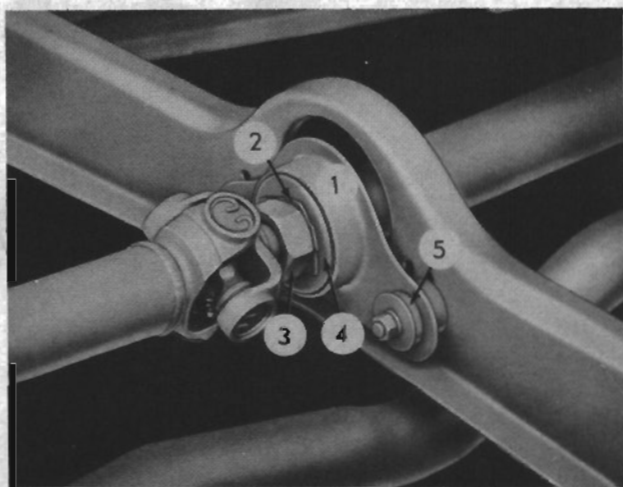

FIG. 2
To remove the rear propeller shaft, first straighten the ear of the lock plate (2, Fig. 2), loosen the grease washer nut (3), and unscrew it from the shaft. Then mark the universal joint flange and rear axle companion flange so that at installation the original position and balance will be maintained. Remove the U bolts which hold the rear joint bearing cups and cross to the rear axle flange. Shift the shaft forward and separate the joint by prying with a suitable bar between the companion flange and the universal cross. Hold the bearing cups on the cross while separating the joint to avoid dropping the cups and spilling the bearings. Then remove the bearing cups and bearings or tape them securely in place on the cross. Slide the shaft rearward, slipping the end of the slip yoke out of the splines of the front shaft.